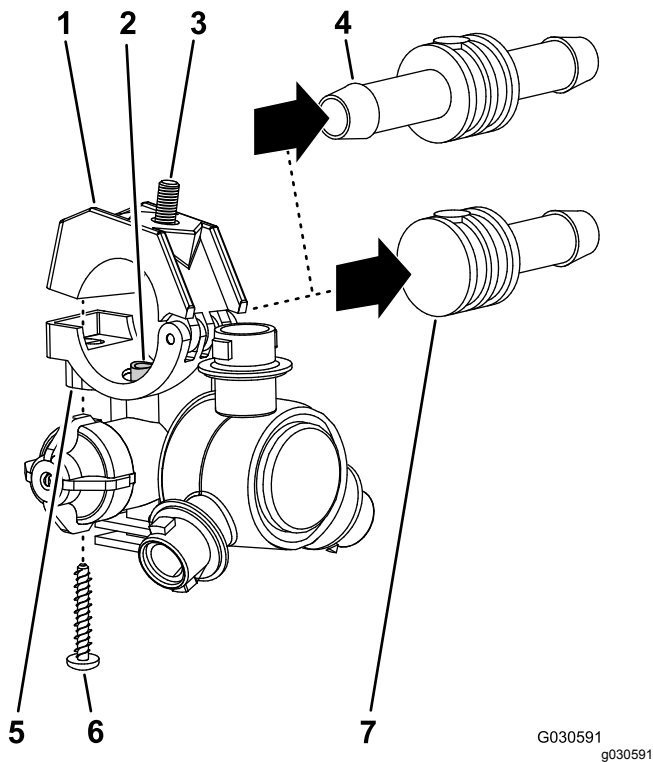

Figure 119
2. Working with the 3 sprayer nozzles that you removed in step 1 in Removing Sprayer Nozzles (page 37), remove the stainless steel screw (#12 x 1-1/4 inches) that secures the upper clamp half and double or single barbed-hose shank (3/4 inch) to the body of each of the sprayer nozzle, and remove the barbed-hose shanks (Figure 119).